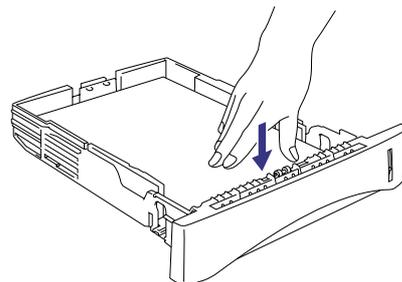

Fig. 2-10
- (3) Load paper into the paper cassette. Check that paper is flat placed. (Fig. 2-10) Paper should be loaded up to the lines on the sliding guide.
- (4) Re-install the paper cassette into the printer.